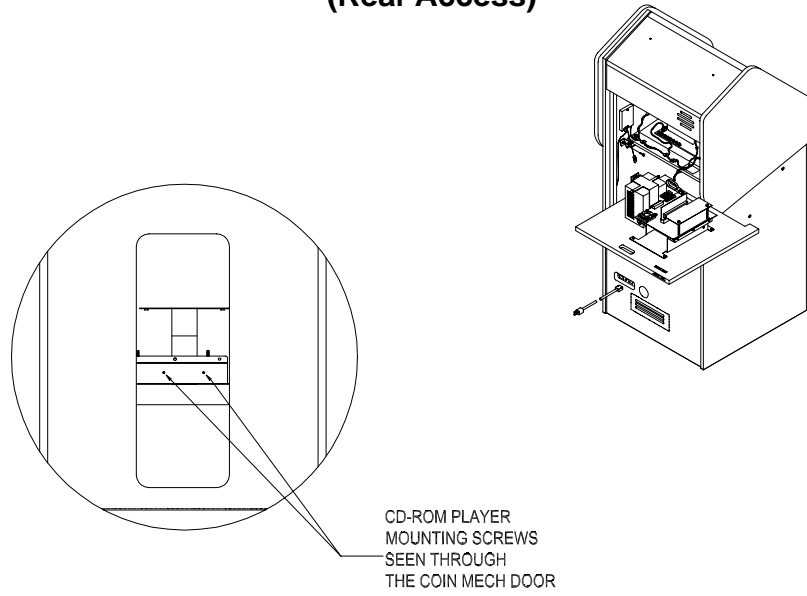

FIGURE 13 - CD-ROM HARDWARE LOCATION
7. Open the coin mech door and locate the two screws securing the CD player to the metalwork (see Figure 13 for screw location). Remove both screws.